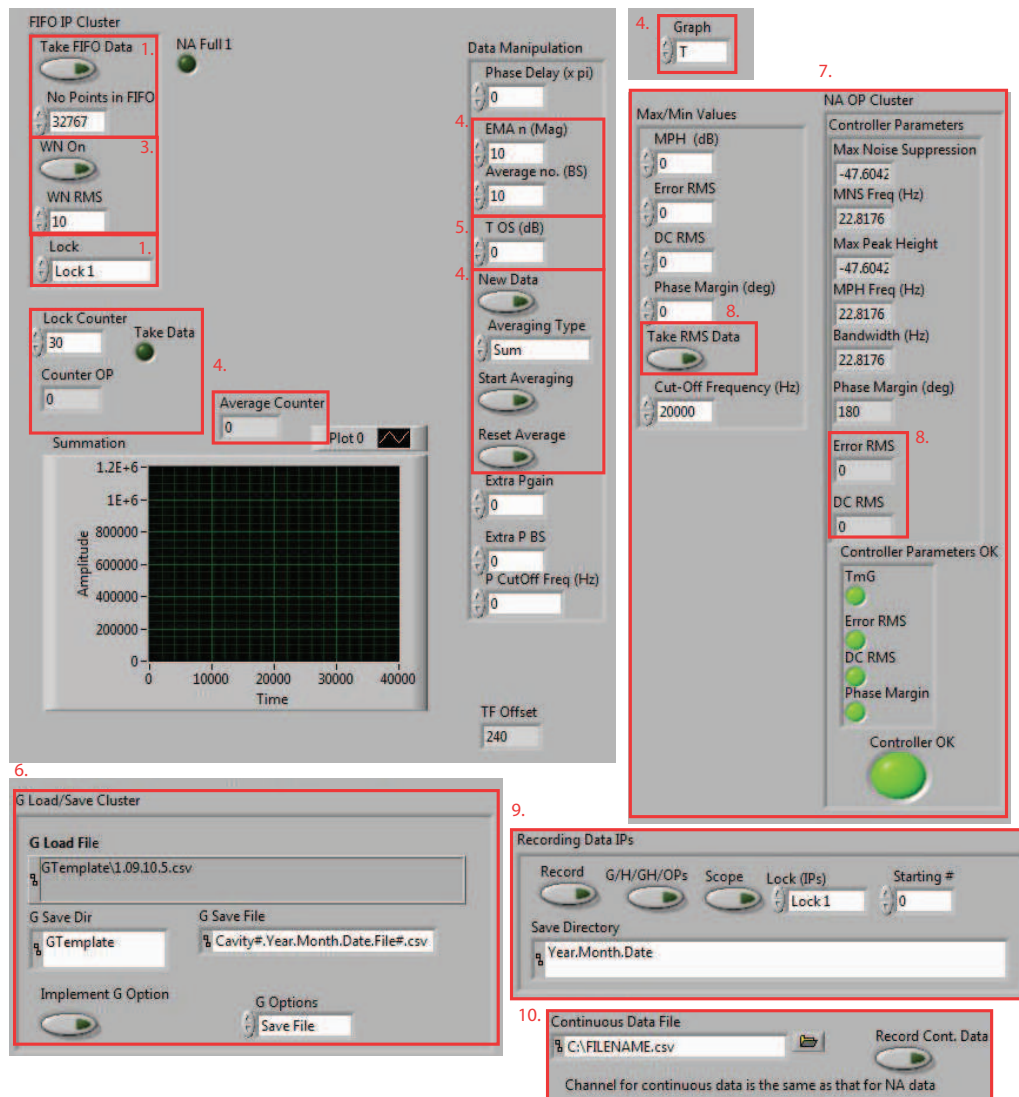

Figure A.5: Lock Optimisation Protocol. The menus and controls used to investigate and optimise a lock. The numbers and boxes refer to the instructions in text.
1. Make sure that the Scope (Located in the **Graphs** menu) is set to the correct lock using **Scope Trigger Channel** and the Scope is turned on (located in the **Scope** tab of the **system Inputs/Outputs** menu), this will allow you to see your progress on the computer screen (see Figure A.5). If the scope is not displaying or triggering correctly try increasing/decreasing the **Acquisition Rate (kHz)** and **Scope Time Out (ms)** controls (not shown).